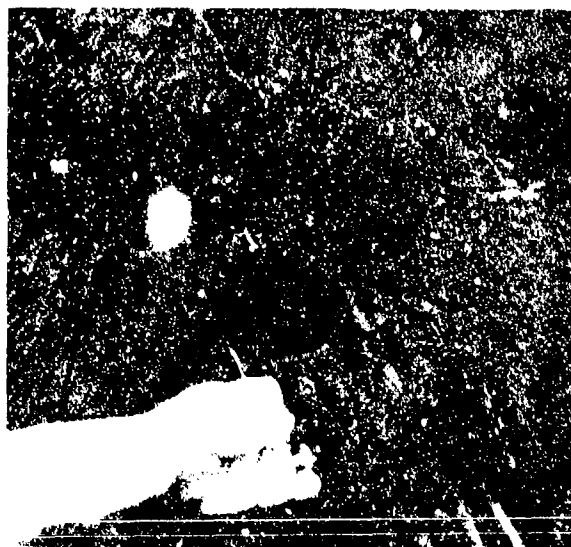

Figure 8-5. Recoil spade control.
(4) Place the spade control lever (fig 8-5) in the LOWER position and increase the engine speed to lower the spade to the ground.
(5) Insure that the weapon tube is in the traveling position when the spade is being emplaced.